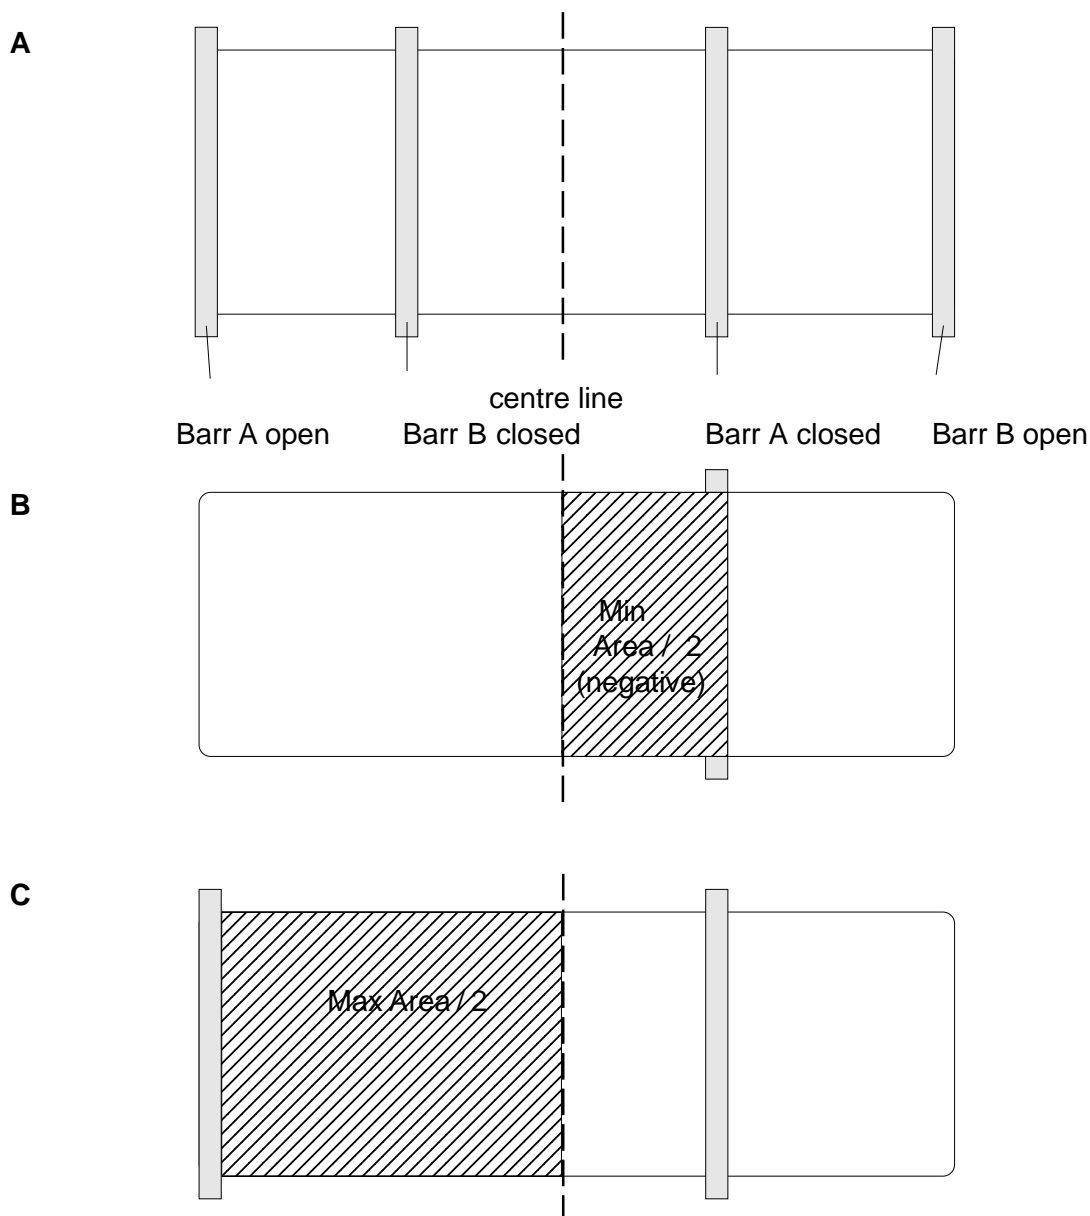

Figure 5.11
3. Click on 'CONTINUE MOTOR' and let the barrier move to its 'closed' position, as shown in Figure 5.11. This will be well over the centre line. Make sure the barrier does not hit barrier B or its belt drive.